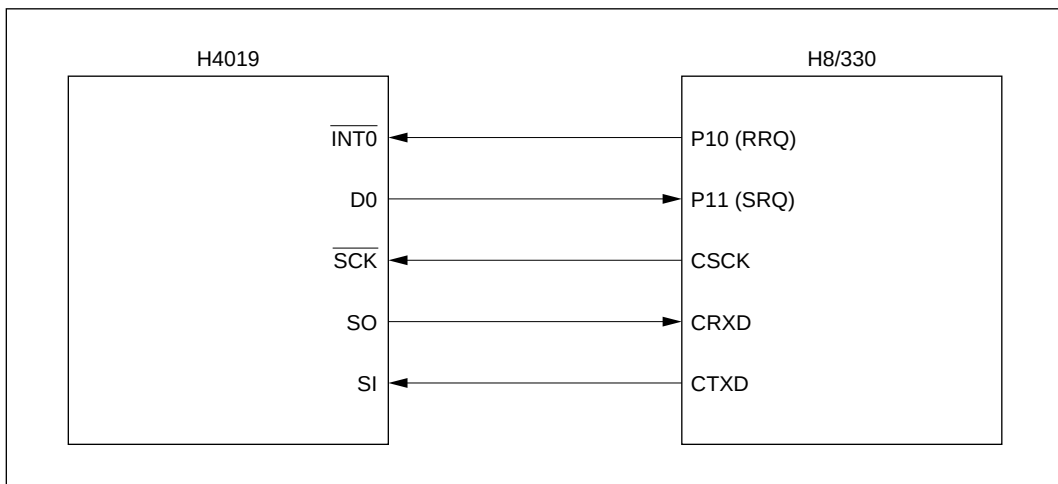

Figure 1 Clocked Synchronous Interface Using H8/330's SCI
1. This sample task uses the H8/330's serial communication interface (SCI) in clocked synchronous mode to interface with a four-bit microcontroller (H4019) as shown in figure 1.